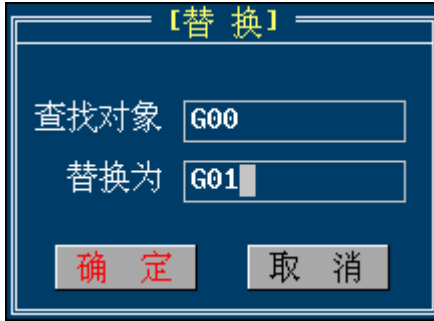

Figure 4-7 Input Box for Replacing
- 2) Press <RPLA> key in the full screen for editing. it will pop up a input box as figure 4-7 shown.